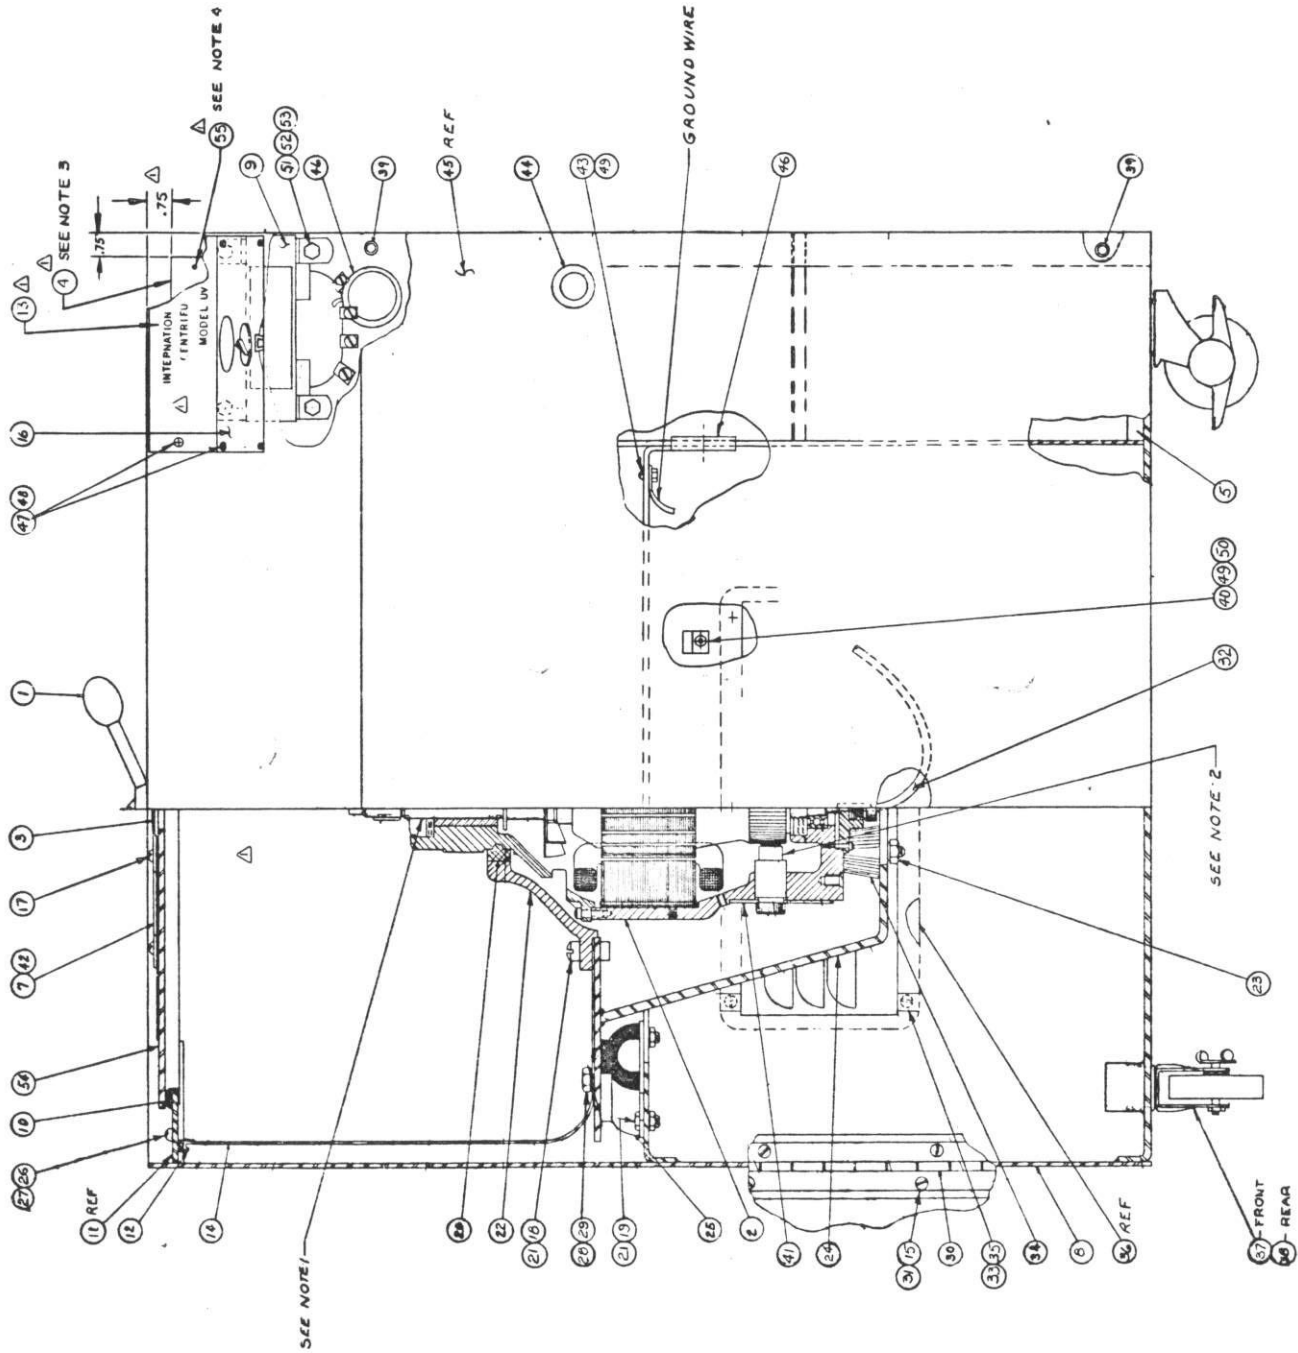

Figure 5. The Model UV Parts Diagram
7. PARTS LIST (Refer to Figure 5)